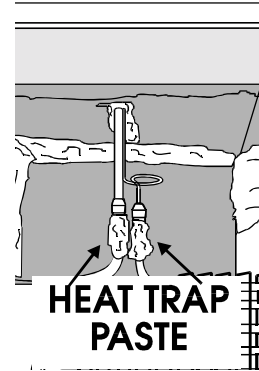

Fig. 5
- If leaks in the inlet or outlet joints of the evaporator are to be repaired in place, apply a generous amount of heat trap paste to the aluminum to copper transition of the inlet or outlet of the evaporator. (Fig. 5)